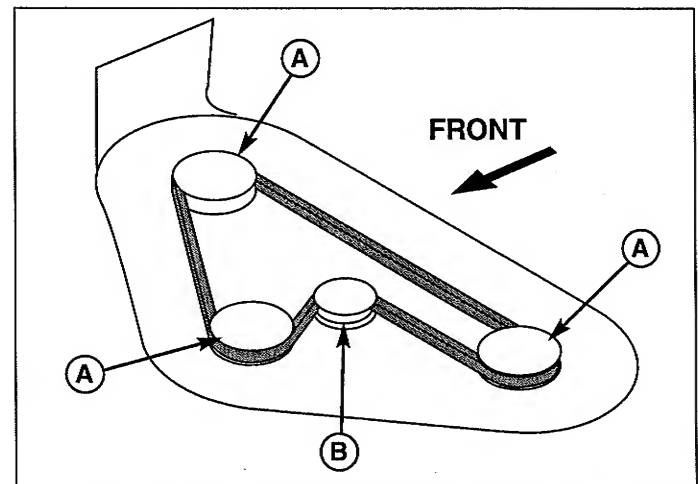

Figure 58. Mower Deck Drive Belt Routing All Models
6. Install a new belt as shown in Figure 58. Make sure that V-side of belt runs in arbor pulley (A) grooves and flat side of belt runs against idler pulley (B).